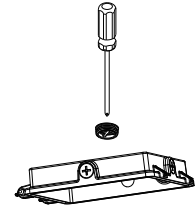

Fig.2-2
2. Select the appropriate cable entry plug and remove it from the luminaire (Fig.2-2)